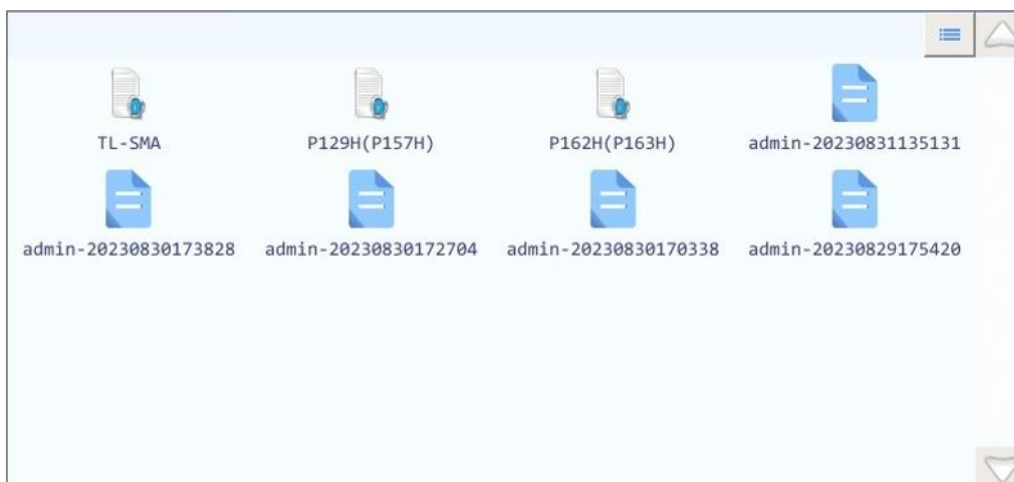

Figure E-2.1. Experiment File Tab - Experiment File Display Area
1. **Experiment File Displaying Area:** display the pre-existed experiment templates and experiment files or file folders within the instrument system, as shown in figure E-2.1.